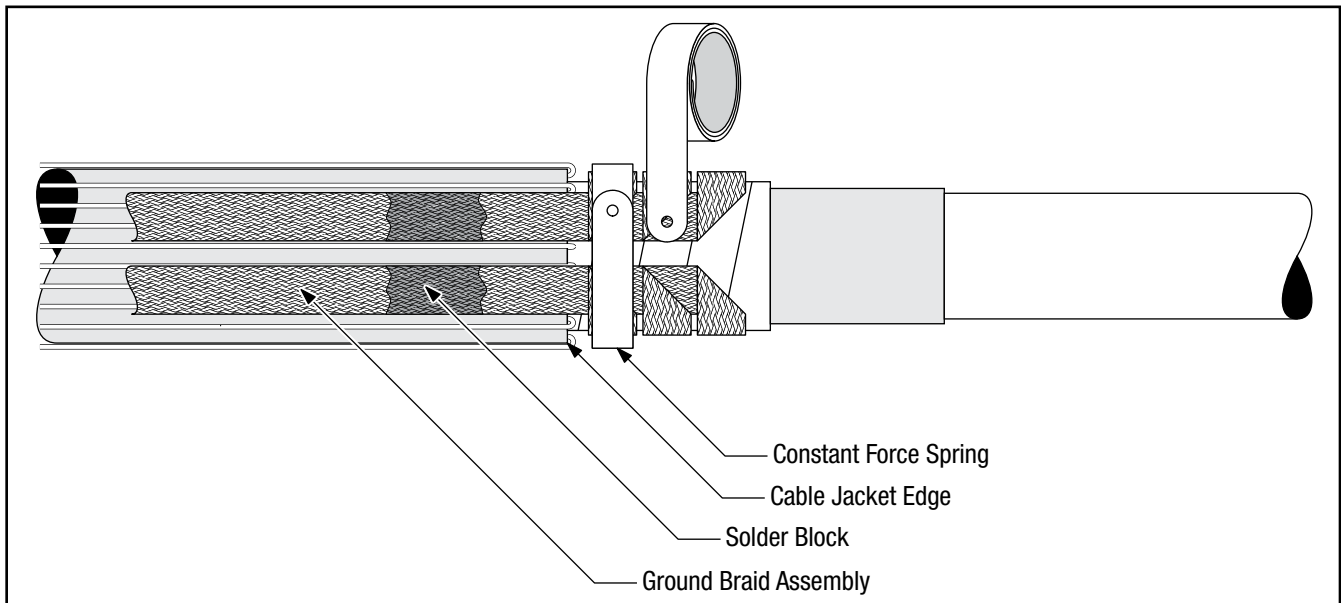

Figure 13
- 4.2 Select the 3 constant force springs from the kit. Starting at the loop of the ground braid assembly nearest the cable jacket edge, install the 3 constant force springs, one around each ground braid loop. Cinch (tighten) the springs after wrapping the final turn. Mark the solder block location on the cable jacket. (Figure 13)